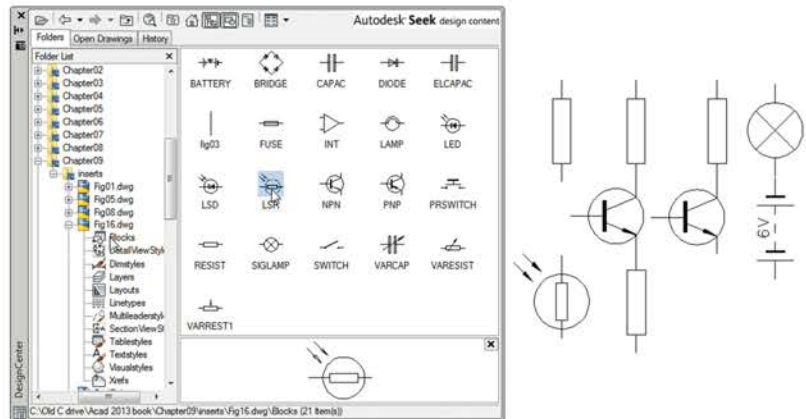

Fig. 13.17 Example using the DesignCenter
4. From the **Folder list**, select the file `Fig16.dwg` and *click* on **Blocks** under its file name. Then *drag* symbol icons from the **DesignCenter** into the drawing area as shown in Fig. 13.17. Ensure they are placed in appropriate positions in relation to each other to form a circuit. If necessary, **Move** and/or **Rotate** the symbols into correct positions.